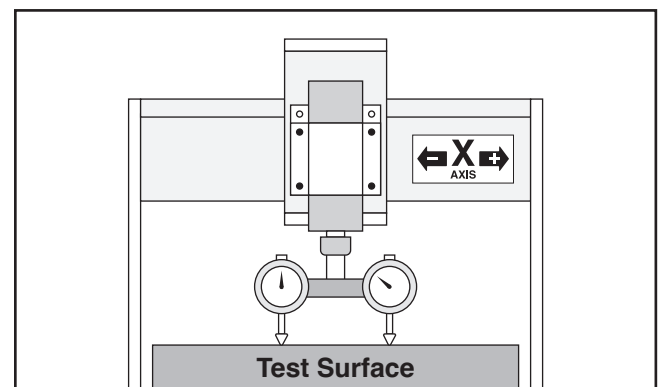

Figure 73. Example of indicators showing different values.
6. Lower tramming tool until dial indicators lightly touch test surface, then make note of measurement shown on indicators (see **Figure 73**).